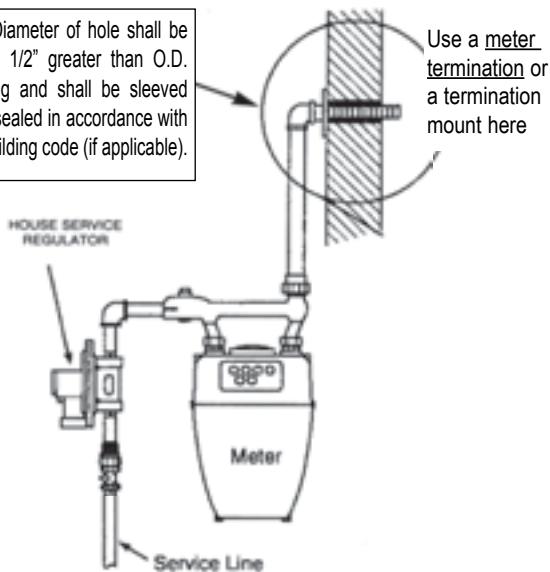

Figure: 4-11
1. Meters which depend on the service and house piping for support shall not be directly connected to the flexible piping. Instead, use a meter termination fitting or termination mount fitting with steel pipe for the outdoor portion of the connection. For mounting of meters, all fastener locations should be used when installing the flange or mounting plate. (Figures: 4-11 and 4-12).